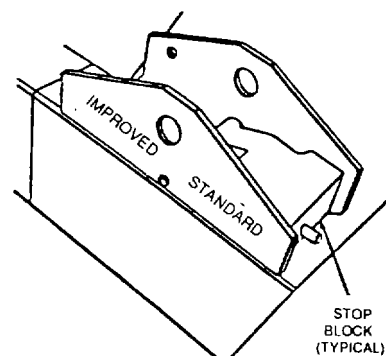

Figure 6-12. Stop Block at Standard Position.
(1) Start loader and fully retract the extension cylinder with fork tips on the ground at their lowest position. No missiles or simulated missile load should be latched to the loader.
(2) Move stop block on the right side of the transfer arm to the STANDARD position (figure 6-12). Position stop block on the left side of the transfer arm to the IMPROVED position.